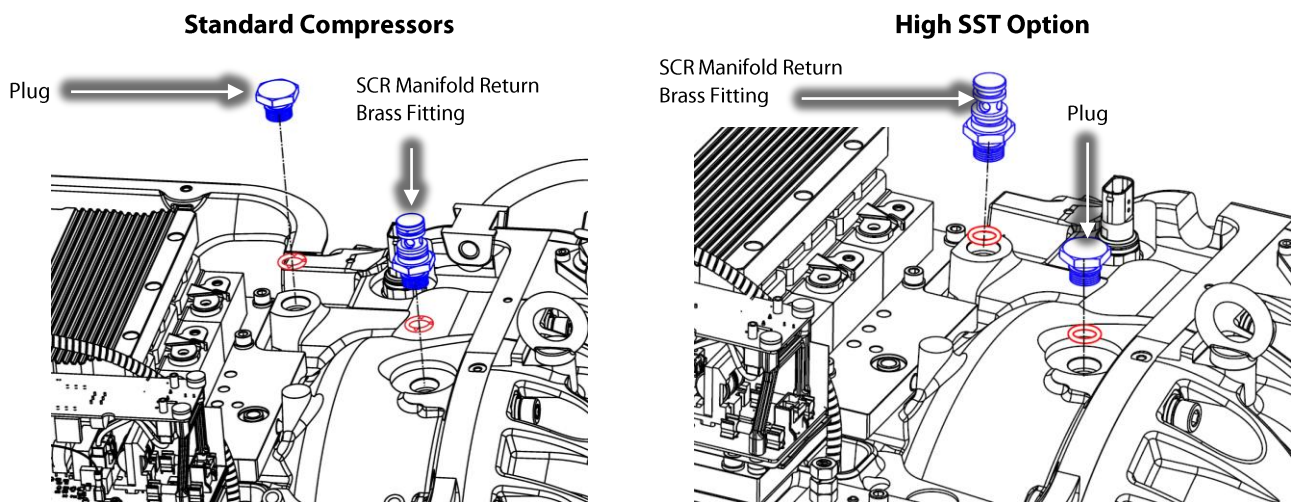

Figure 4 – Plug and SCR Cooling Manifold Return Brass Fitting
9. Install the Tall SCR Manifold Return Brass Fitting (use supplied fitting if required) into the compressor housing (where the Bass Plug was previously installed) and torque to 7 Nm (62 in.lb). Refer to Figure 4 – Plug and SCR Cooling Manifold Return Brass Fitting for this and the following two steps.